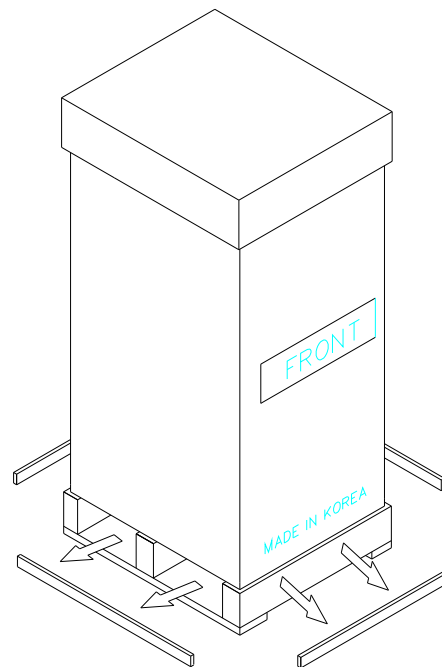

Fig.2
- Use an appropriate tool to remove the nails from the pallette. (refer to Fig.2)